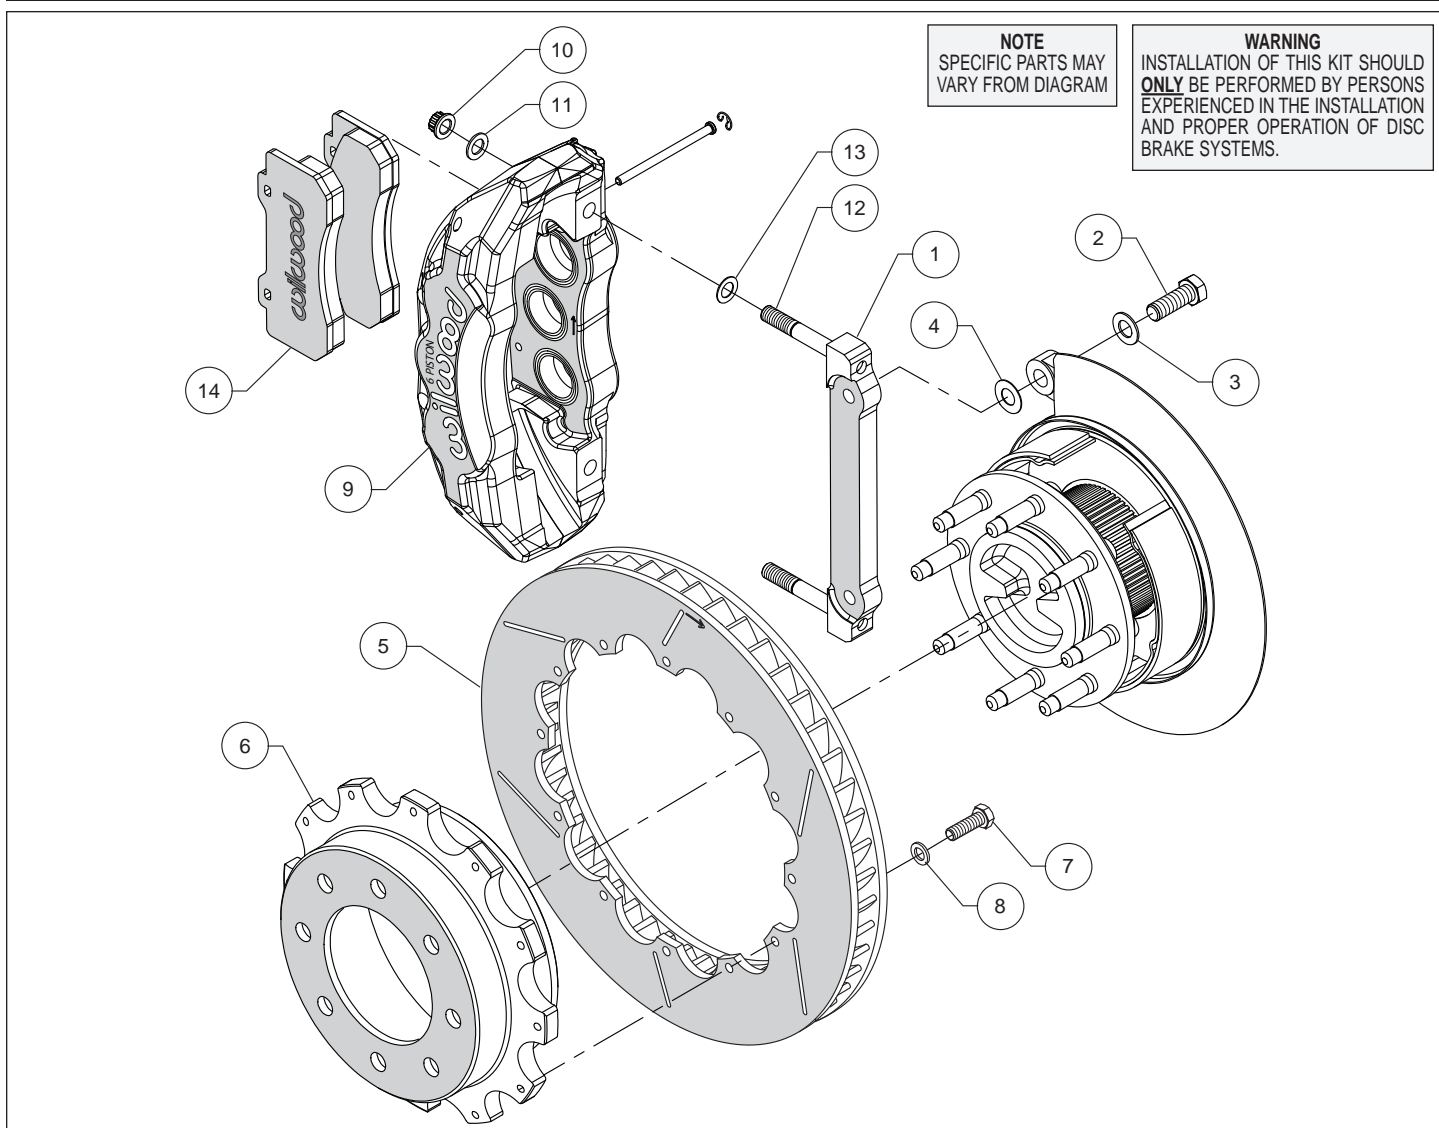
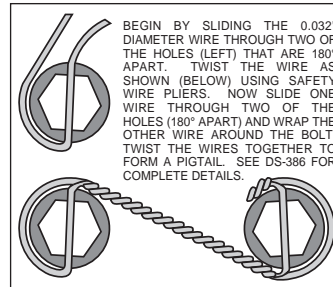

Figure 1. Typical Installation Configuration
Figure 3. Safety Wire Diagram
Assembly Instructions (numbers in parenthesis refer to the parts list and Figure 1 on the preceding pages):
- The caliper mount bracket (1) should initially be installed with clean, dry threads on the mounting bolts. Orient the bracket as shown in Figure 1 and Photo 1, and install using bolts (2) and washers (3). Initially place one .029 thick shim (4) on each bolt between the bracket and upright, Figure 1. Temporarily tighten the mounting bolts. **NOTE: The bracket must fit squarely against the mount bosses on the upright.** Inspect for interference from casting irregularities, machining ridges, burrs, etc. Later, after the caliper alignment has been checked, the mount bolts will be secured using red *Loctite*® 271.
- Orient the rotor (5) and the hat (6) as shown in Figure 1 and Photo 2. Attach rotor to hat using bolts (7) and washers (8). Using an alternating sequence, apply red *Loctite*® 271 to the threads, and torque to 25 ft-lbs. The bolts must be safety wired using standard 0.032 inch diameter stainless steel safety wire as shown in Figure 3. Please refer to Wilwood's data sheet DS-386 for complete safety wire installation instructions.
- NOTE: This kit contains distinct right and left hand calipers that must be mounted in a specific direction, as described below.** Lubricate the caliper mounting studs (12) with lightweight oil. Initially place one .032" thick shim (13) on each stud as shown in Figure 1 and Photo 3. Mount the caliper (9) onto the bracket (1) using lock nuts (10) and washers (11), Figure 1. Ensure that the caliper is mounted so that the largest pistons are at the rotor exit end of the caliper, in relation to the direction of rotor rotation. Temporarily tighten the lock nuts and view the rotor through the top opening of the caliper. The rotor should be centered in the caliper, Photo 4. If not, adjust by adding or subtracting shims (4) between the bracket and the upright. Always use the same amount of shims on each of the two mounting bolts. Once the caliper alignment is correct, remove the bracket mounting bolts (2) one at a time, apply red *Loctite*® 271 to the threads, and torque to 77 ft-lb.